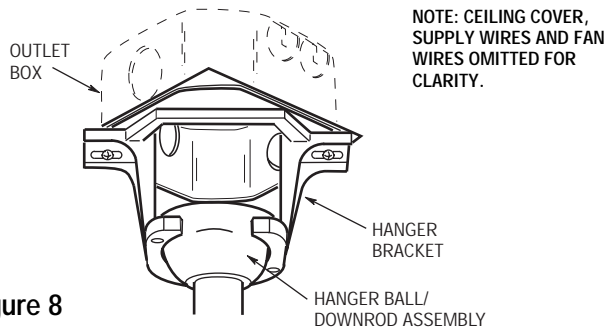

Figure 8
2. Carefully lift the fan from the foam pad and seat the hanger ball/downrod assembly on the hanger bracket that was just attached to the outlet box (Figure 8). Be sure the groove in the ball engages with the tab on the hanger bracket (Figure 7).